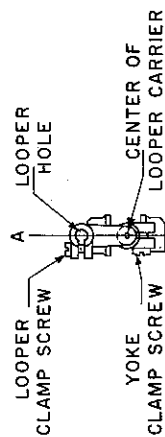
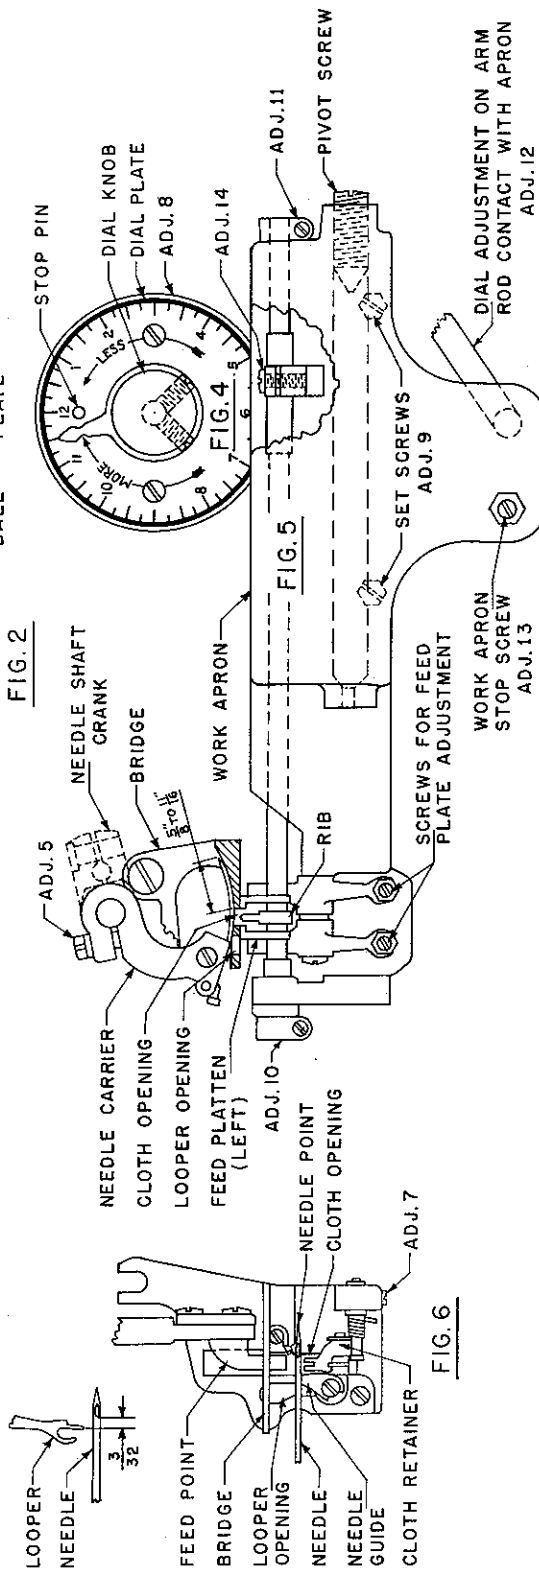
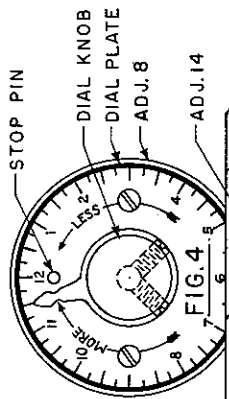

FIG. 1
FIG. 6
FIG. 2
31. Continue to rotate hand wheel until the needle is at the end of needle stroke on the right hand side, see figure 5; at this position the point of the needle must be from $5/8''$ to $11/16''$ from the right hand side of the cloth opening on the presser foot. This setting is made by loosening the clamp screw holding the needle ball in the needle shaft crank, and turning the eccentric ball until the point of the needle is set correctly. See figures 2 and 5, adjustment 4 and 5.
32. The needle must be in contact with the needle guide when the needle point is from $1/64''$ to $1/32''$ from the left hand side of the cloth opening in the presser foot, Figure 6.
39. To set depth of feed, figure 6, adjustment 5, first turn hand wheel until needle point when approaching from the left is flush with left hand side of cloth opening in presser foot. Loosen the two feed clamp screws, and set feed so that a $.003''$ shim or newspaper will just be clamped between the top of feed plate, and the bottom of the presser foot. The feed points must be parallel with bottom of foot, tighten the feed clamp screws, and check clearance between feed and looper at all positions.
48. The looper carrier and looper yoke are set before assembling these parts into the machine. Now, the looper ball is positively located on the shaft of the looper carrier by a spot screw. The looper carrier is assembled to the looper yoke, so that the distance from the edge of the looper yoke pin nearest the looper ball, to the side of the looper ball nearest the looper yoke will be 4 to $4-1/32$ (See Adjusting Chart, Figure 1, Adjustment 2.) The looper hole must be in line with center of looper carrier as shown in Figure 1.
49. The looper is mounted in the looper carrier assembly; allow $1/64''$ space between looper shoulder and end of looper carrier. (See Figure 2, Adjustment 1.) The Correct assembling of this unit must be understood in case for any reason it is necessary to remove or replace this assembly.
55. Before setting the looper, the looper carrier assembly must be in accordance with instructions for Figure 1, and Figure 2, and the needle setting must be as described in adjustments 4 and 5, Figures 2 and 5.
63. Loosen the looper yoke clamp screw, see Adjustment 2, Figure 2, and roll the looper until the long prong of the looper just brushes the scarf of the needle.
65. Continue to rotate hand wheel in clockwise direction, until the short prong of the looper is at nearest point when passing chaining finger, not exceeding $1/32''$ - See Figure 6. If the short prong does not clear the chaining finger, or if the clearance is greater than $1/32''$, then the previous adjustments have not been correctly made, and these should be re-made.
71. Continue to rotate the hand wheel in a clockwise direction until the point of the long prong of the looper is over the center line of the needle. Check to see that the point of the long prong of the looper is $1/16''$ to $3/32''$ from the inner end of eye of the needle, and that the point of the long prong just brushes the scarf of the needle. In case the above conditions do not exist, the eye must be corrected -- this is done as described in the 56 to 65 paragraphs inclusive under the heading "ADJUSTING AND SETTING THE LOOPER". Be sure to roll the looper - Adjustment 2, Figure 2. Do not turn the looper eccentric bushing.
72. The machine, as far as the looper and needle are concerned is now ready to sew. Different materials or different threads may cause a slightly variation from the above adjustments, however, these adjustments will give the best results when padding or hemming the more heavy materials. When hemming silks and cotton, however, it may be advisable to set the point of the needle $1/16''$ - Figure 6, instead of $3/32''$, without changing the looper position by re-adjusting the needle ball stud, Adjustment 4, Figure 2.
73. The cloth retainer located in the cloth opening of the presser foot must at all times be adjusted as close to the needles as possible, and set relative to the ridge forming disc to firmly hold the work onto the disc while the needle is penetrating the material. If the work is carried along with the needle, no loop will form, resulting in missed stitches. See Figure 6, Adjustment 7. To adjust the retainer loosen set screw in foot and turn the cloth retainer eccentric bushing and turn bushing for setting retainer to the needle, and slide to the right or left for setting retainer to the rib, and tighten set screw in the presser foot.